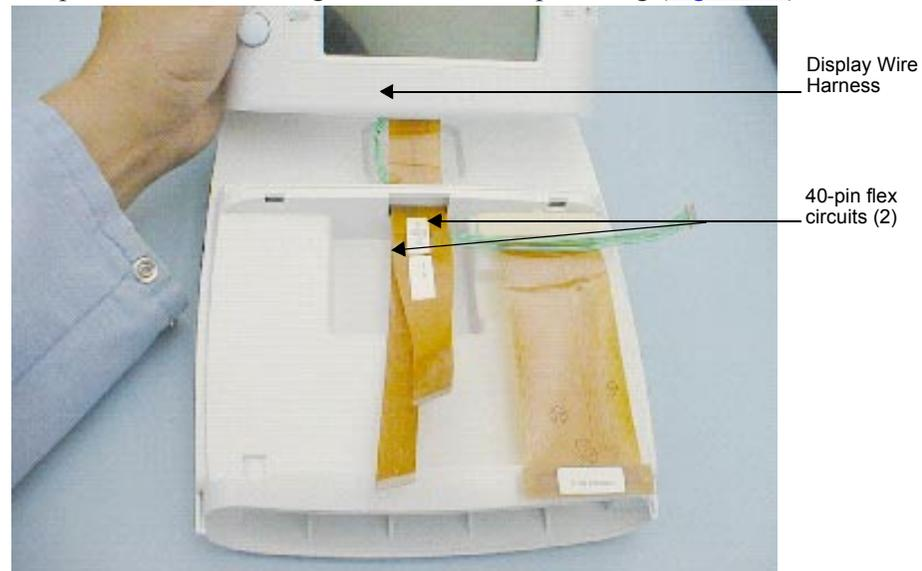

Figure 7.4 Replacing the Top Housing
1. Carefully guide the ends of the replacement Display Wire Harness and two 40-pin flex circuits through the slot in the top housing (Figure 7.4).